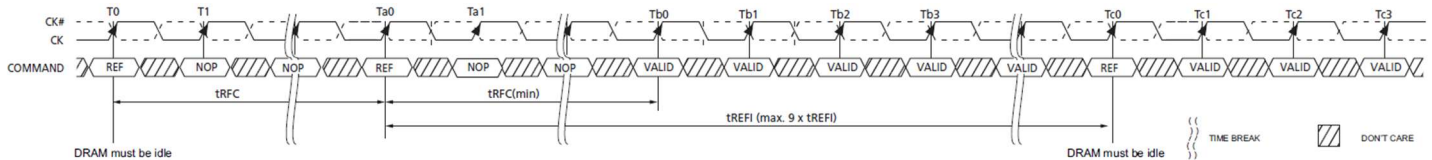

Figure 30 - Refresh Command Timing
4.13.2.3 tLZ(DQS), tLZ(DQ), tHZ(DQS), tHZ(DQ) Calculation
tHZ and tLZ transitions occur in the same time window as valid data transitions. These parameters are referenced to a specific voltage level that specifies when the device output is no longer driving tHZ(DQS) and tHZ(DQ), or begins driving tLZ(DQS), tLZ(DQ). Figure 30 shows a method to calculate the point when the device is no longer driving tHZ(DQS) and tHZ(DQ), or begins driving tLZ(DQS), tLZ(DQ), by measuring the signal at two different voltages. The actual voltage measurement points are not critical as long as the calculation is consistent. The parameters tLZ(DQS), tLZ(DQ), tHZ(DQS), and tHZ(DQ) are defined as single ended.